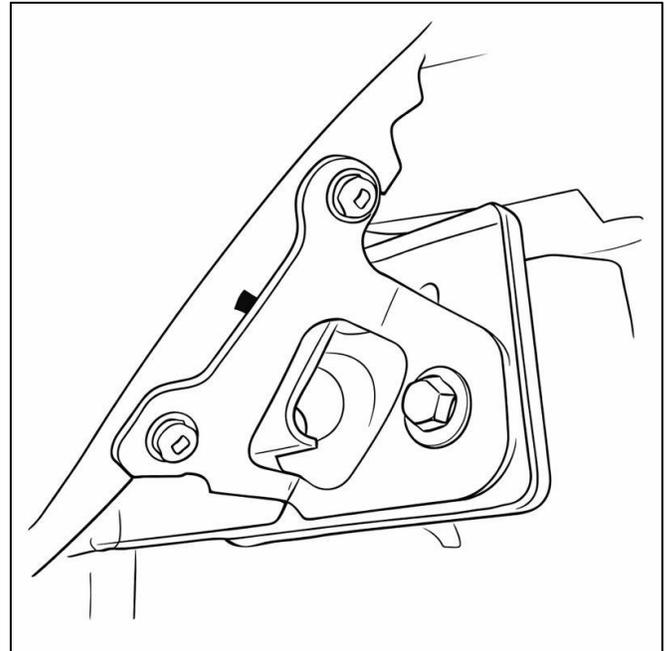

Figure 19: Fender Bracket Install, Right Side Shown
26.  Install both FENDER BRACKETS into position using the OEM hardware removed in Step 14. The bracket for the left side of the vehicle has "L" and right side has an "R". **See Figure 19.**